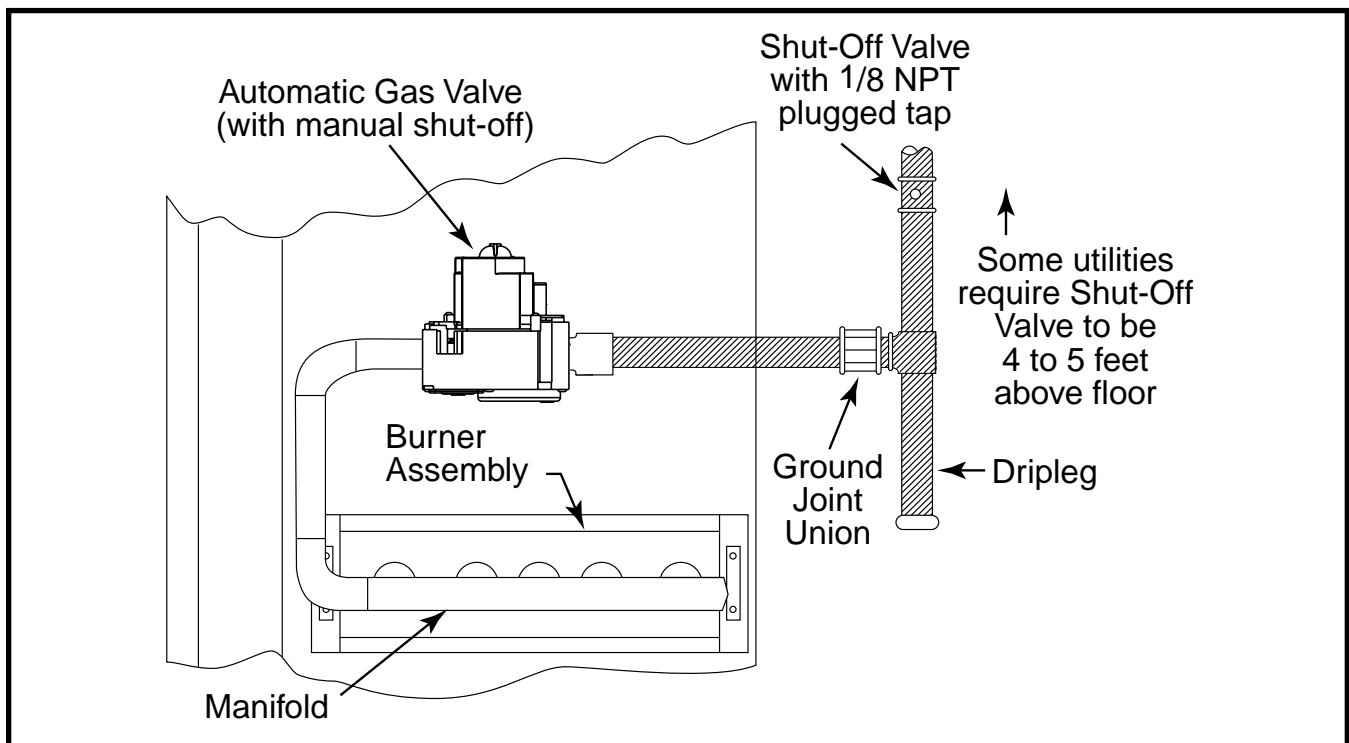

Figure 7. Typical Gas Hookup - Right Side Entry
- Some local codes require the installation of a manual main shut-off valve and ground joint union external to the unit. The shut-off valve should be readily accessible for service and/or emergency use. Consult the local utility or gas supplier for additional requirements regarding placement of the manual main gas shut-off. See Figure 7 (page 15).
- A drip leg should be installed in the vertical pipe run to the unit. See Figure 7.
This unit only has right side gas entry. When connecting the gas, provide clearance between the gas supply line and the entry hole in the unit's casing to avoid unwanted noise and/or damage to the unit. A typical gas service hookup is shown in Figure 7.